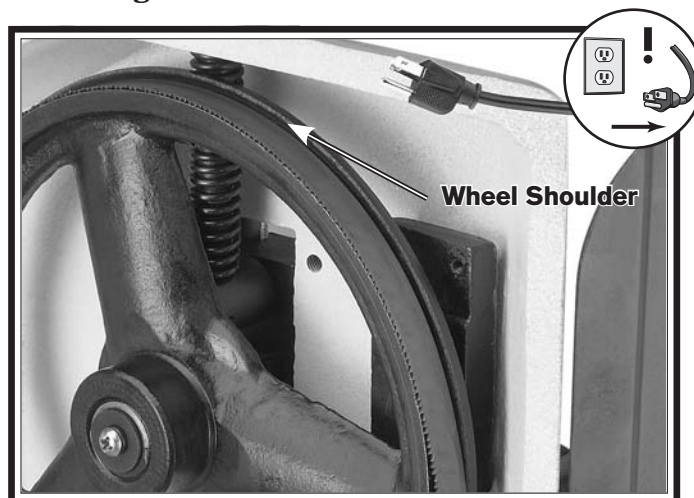

**Figure 27. Blade cutting direction.**
**Note:** It is sometimes possible to flip the blade inside out, in which case the blade will be installed in the wrong direction. Check to make sure the blade teeth are facing toward the workpiece, as shown in **Figure 27**, after mounting to the bandsaw. Some blades will have a directional arrow as a guide.